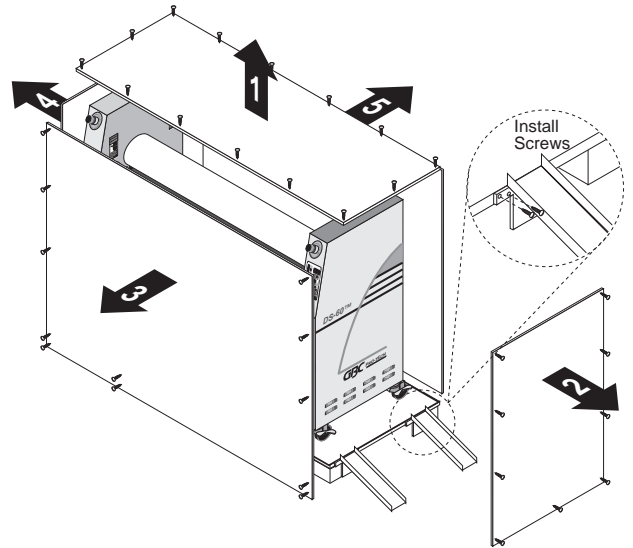

Figure 2-2: Removing the Crate
1. Remove the top of the crate and then the sides in the order shown in Figure 2-2.
**A second person must support the side labeled (5) in Figure 2-2. It can fall and damage the heat press.**
4. Have the heat press rolled off the skid and placed on the floor by licensed riggers. The ramps included with the heat press can be secured to the edge of the crate bottom using the screws left over from the crate disassembly (see Figure 2-2).